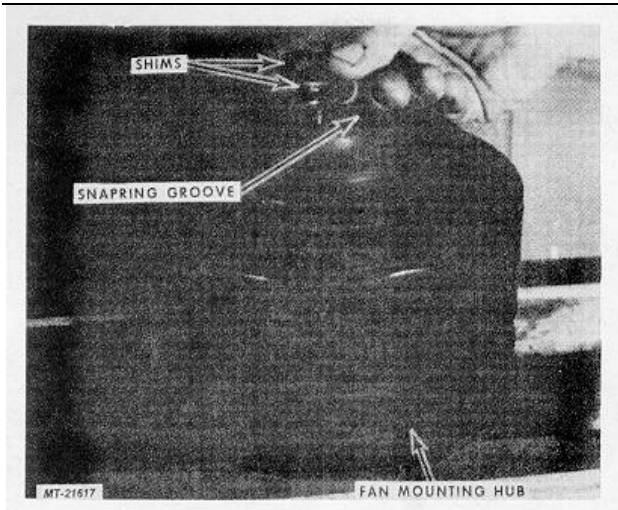

Fig. 87
50. Install the two thick shims 2.413mm (.095") and as many other shims from Shim Set as is necessary to fill the gap between Thrust Washer and the snapping groove in Fan Mounting Mounting Hub, Fig. 87.